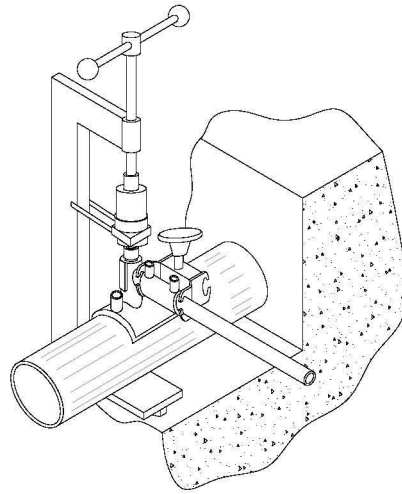

Figure A9 - Clamping and Alignment of fittings
13. Place the fitting and loading tool centrally over the scraped pipe. Assemble the loading tool on to the main. Apply the correct loading pressure on the fitting, this will be displayed by the indicator on the tool. (Figure A9).